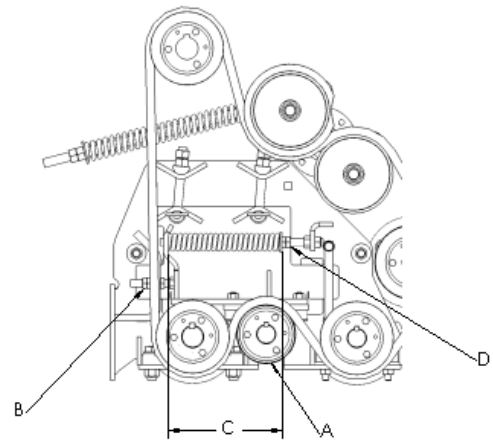

Figure 7-23: Front Grabroll Spacing Adjustment
3. Adjust nuts (B), shown in figure 7-23, to change the gap between smooth grabroll (A) and the scrolled grabrolls.